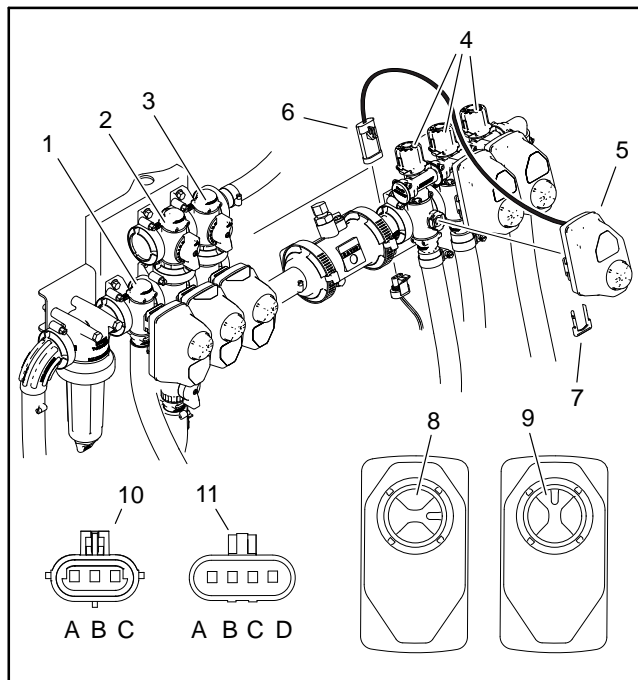

Figure 76
2. Locate valve actuator to be tested (Fig. 76). Carefully unplug machine wire harness connector from valve actuator, remove the retaining fork and remove the actuator from the valve assembly.